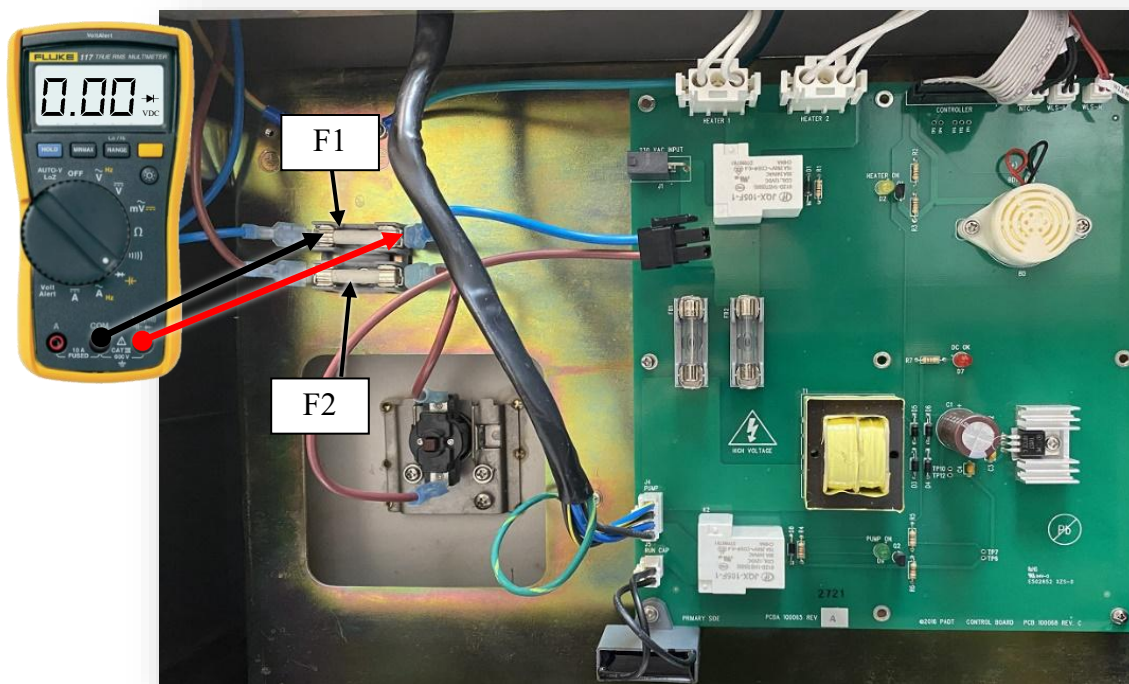

Figure 50 – Thermal Cutoff Switch (TCO)
- a. Unplug the SCA from power, and set the multimeter Diode Test Mode $\rightarrow$. Check the continuity across F1 and F2 (See Figure 50).